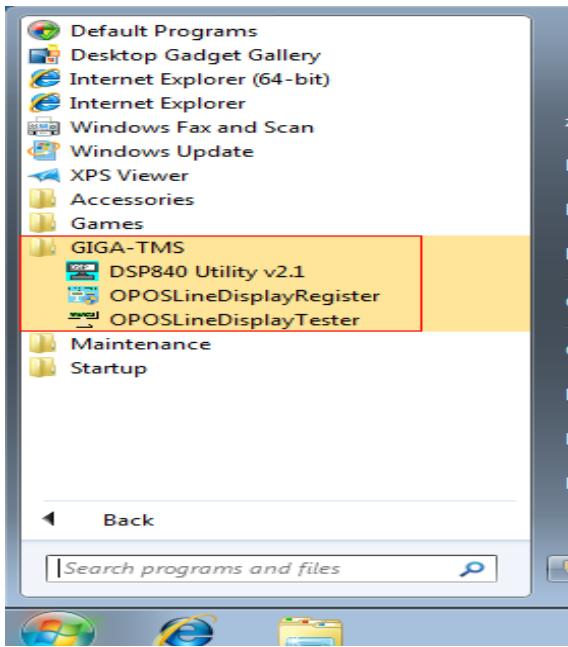

Figure 3-3.start menu → All Programs→
1. Click start menu → All Programs → GIGA-TMS → OPOSLineDisplay Register or Test, see figure 3-3